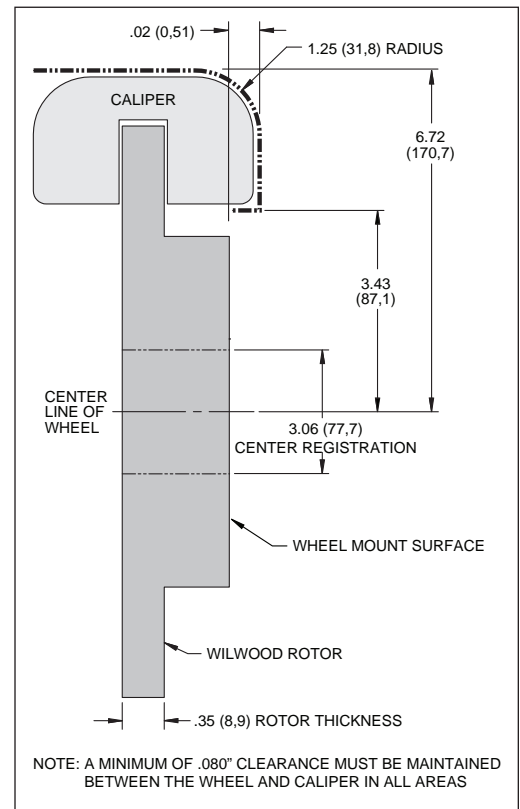

Figure 5. Wheel Clearance Diagram
- Review the Wheel Clearance Diagram (Figure 5) to verify that there is adequate clearance with the wheels you will be using with the installation.